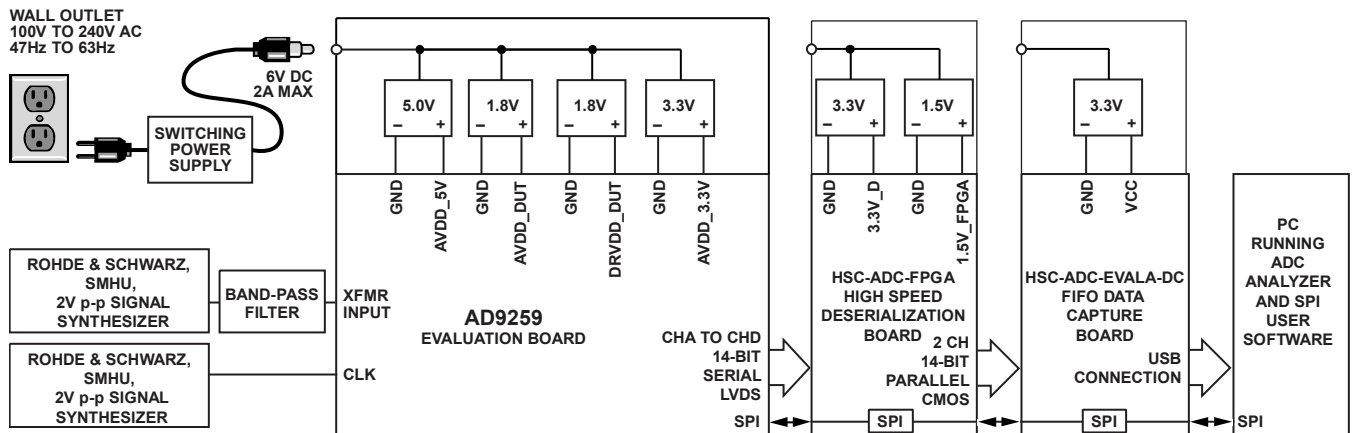
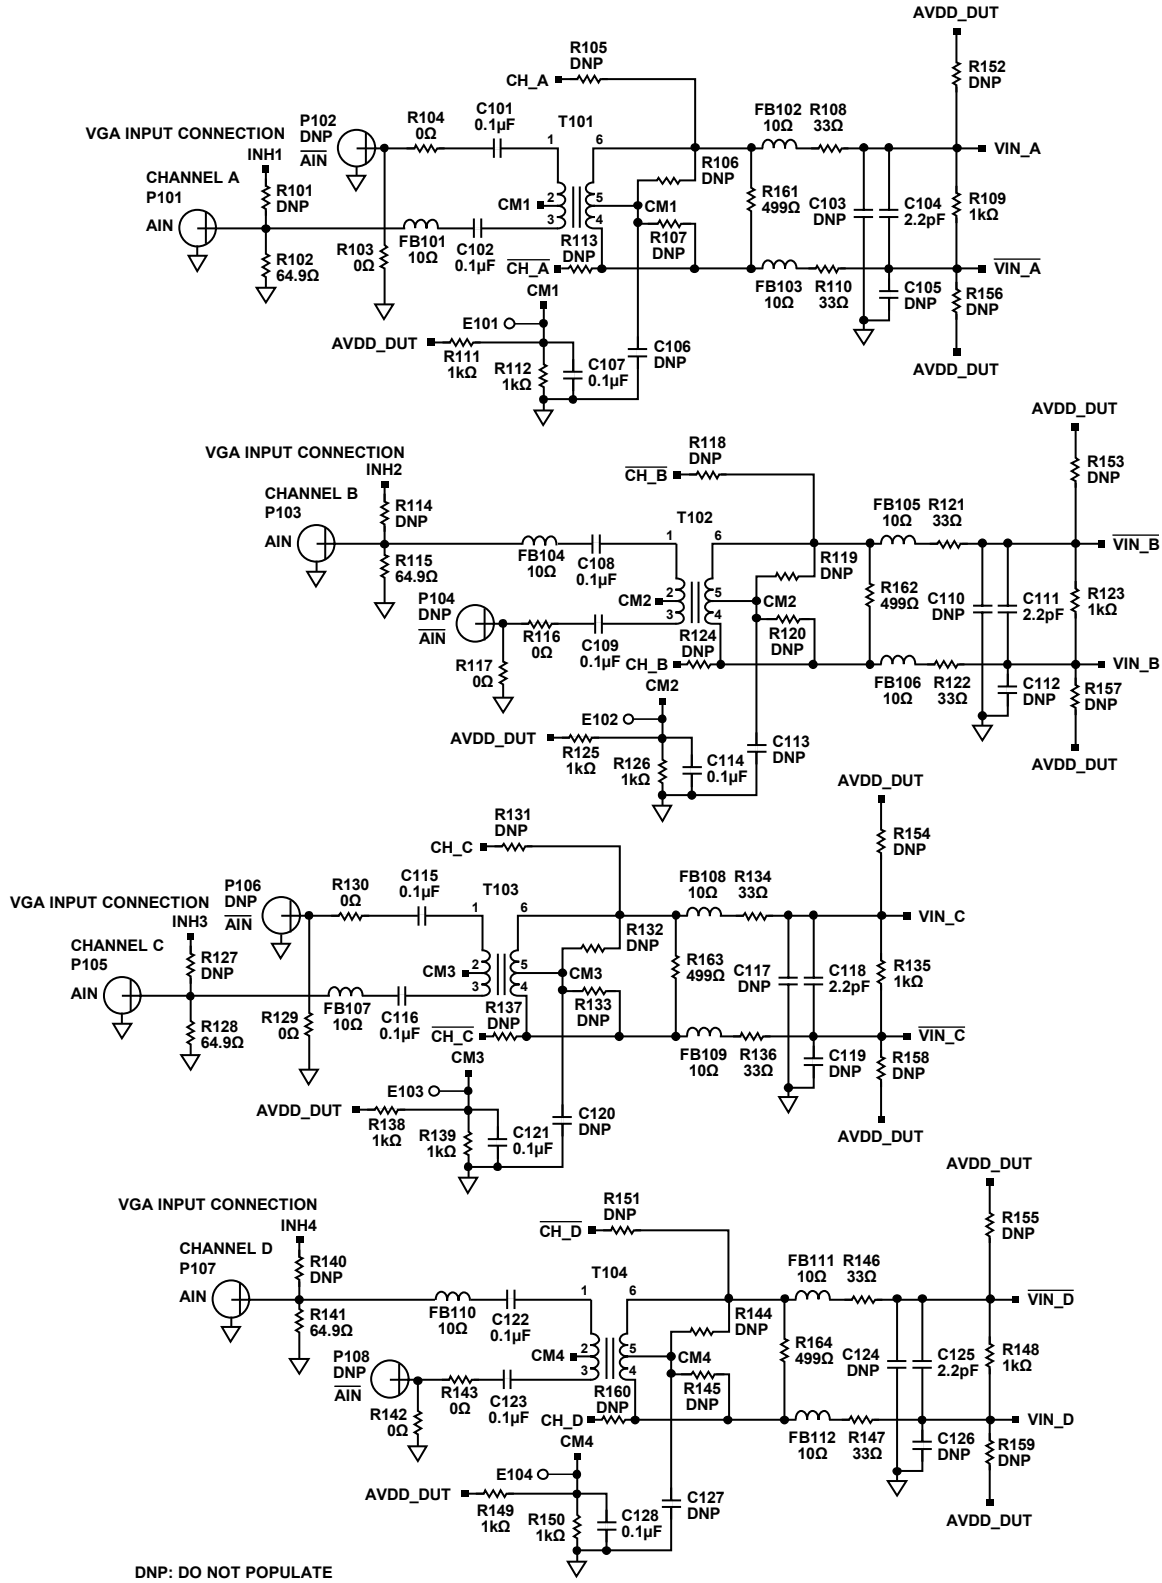
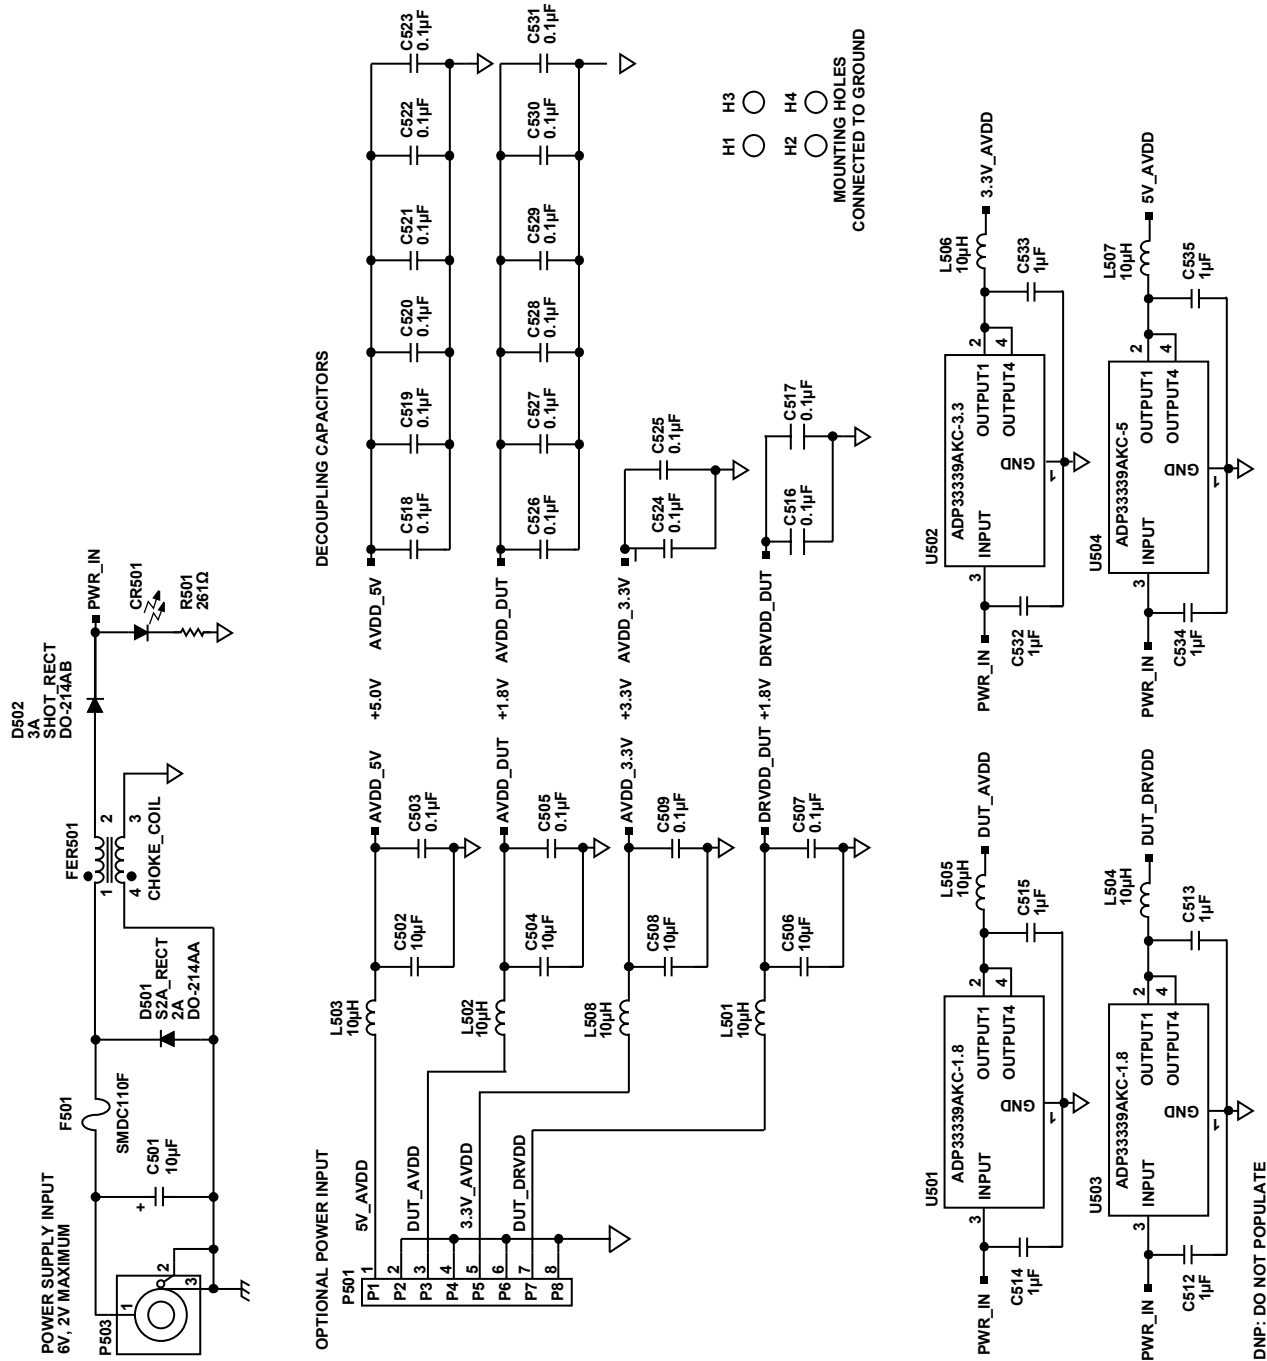

Figure 61. Evaluation Board Connection
Figure 63. Evaluation Board Schematic, DUT Analog Inputs
Figure 67. Evaluation Board Schematic, Power Supply Inputs
The AD9259 evaluation board provides all of the support circuitry required to operate the ADC in its various modes and configurations. The converter can be driven differentially through a transformer (default) or through the AD8332 driver. The ADC can also be driven in a single-ended fashion. Separate power pins are provided to isolate the DUT from the AD8332 drive circuitry. Each input configuration can be selected by proper connection of various jumpers (see Figure 63 to Figure 67). Figure 61 shows the typical bench characterization setup used to evaluate the ac performance of the AD9259. It is critical that the signal sources used for the analog input and clock have very low phase noise (<1 ps rms jitter) to realize the optimum performance of the converter. Proper filtering of the analog input signal to remove harmonics and lower the integrated or broadband noise at the input is also necessary to achieve the specified noise performance.
See Figure 63 to Figure 71 for the complete schematics and layout diagrams that demonstrate the routing and grounding techniques that should be applied at the system level.
- **D+, D-:** If an alternative data capture method to the setup described in Figure 61 is used, optional receiver terminations, R206 to R211, can be installed next to the high speed back-plane connector.